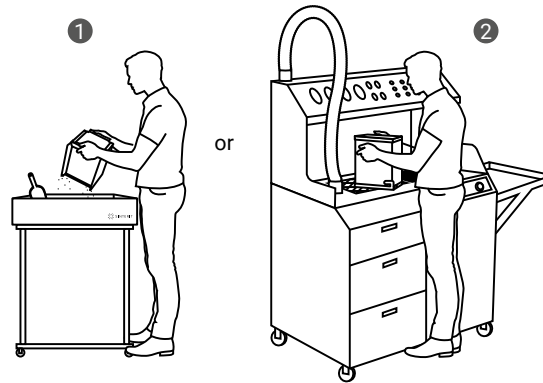

Fig. 8.5. Moving the IO BOX to the Foldable Tray **1** or to the PHS worktop **2** to clean the printout.
10. Carry the IO BOX and its contents onto the foldable tray **1** or on the PHS worktop **2** (fig. 8.5) then press **DONE** on the screen.